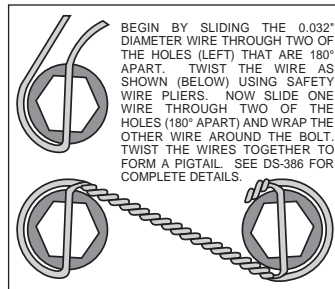

Figure 4. Safety Wire Diagram
- Orient the rotor (6) and the hat (7) as shown in Figure 1 and Photo 2. Attach rotor to hat using bolts (9) and washers (8). Using an alternating sequence, apply red *Loctite*[®] 271 to the threads, and torque to 155 **in-lbs**. For an added measure of security, the bolts may be safety wired using standard 0.032 inch diameter stainless steel safety wire as shown in Figure 4.